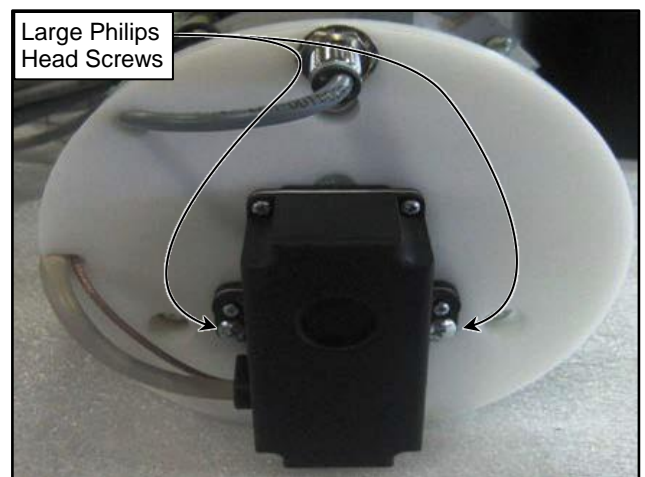

Figure 96
4. Remove the two large Philips head screws that hold the encoder to the white plate. (See Figure 96)